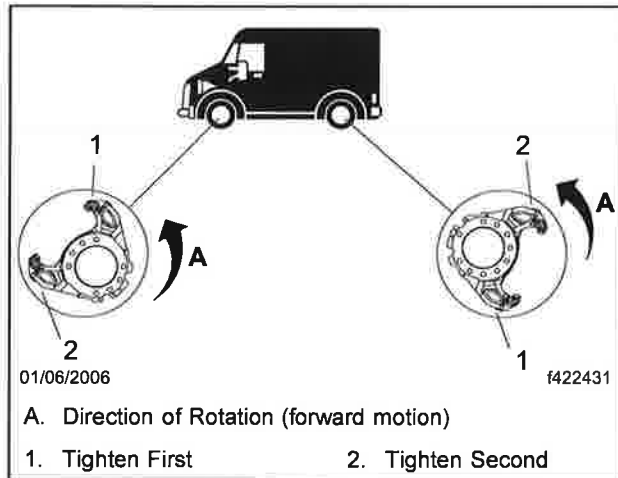
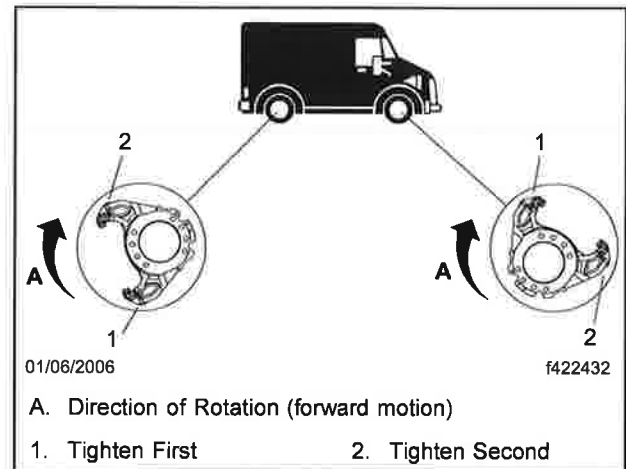
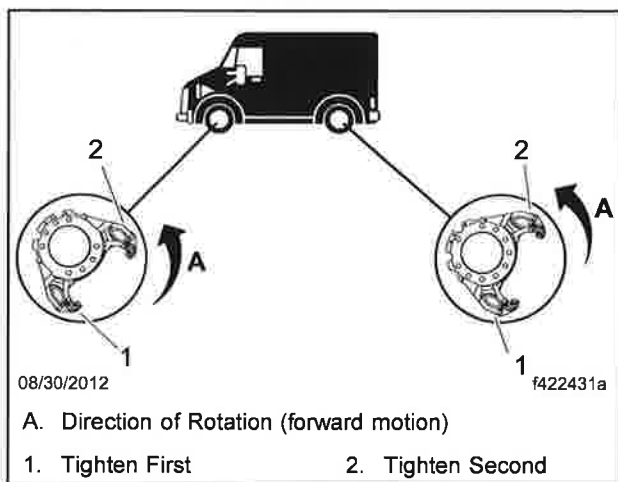
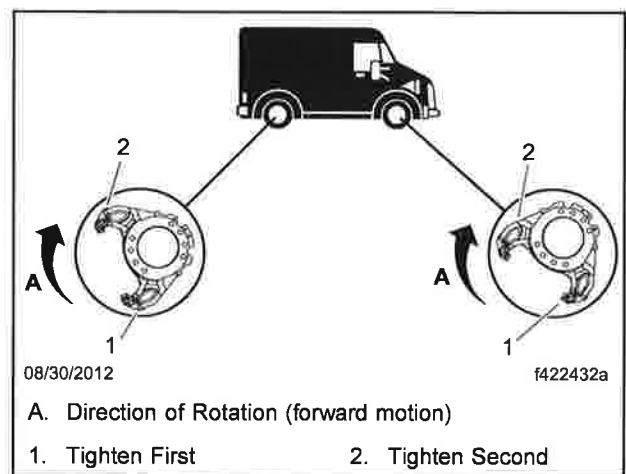

Fig. 10, Tightening Sequence for Caliper Mounting Bolts, Left Side (MCL chassis)
Fig. 11, Tightening Sequence for Caliper Mounting Bolts, Right Side (MCL chassis)
Fig. 12, Tightening Sequence for Caliper Mounting Bolts, Left Side (MC chassis)
Fig. 13, Tightening Sequence for Caliper Mounting Bolts, Right Side (MC chassis)
IMPORTANT: Always tighten caliper guide pin bolts in the proper sequence. Do not overtighten caliper guide pin bolts. Increased brake drag may result from incorrect tightening. See Fig. 10 and Fig. 11 for the MCL chassis and Fig. 12 and Fig. 13 for the MC chassis before tightening either the upper or lower bolt.
22. Hold the caliper in the closed position with the caliper upper guide pin boss hole aligned with the threaded hole in the upper guide pin head. Hand-thread the upper guide pin bolt. Then tighten the upper and lower guide pin bolts 93 to 107 lbf-ft (126 to 145 N·m) in the order shown in Fig. 10 and Fig. 11 for the MCL chassis and Fig. 12 and Fig. 13 for the MC chassis.